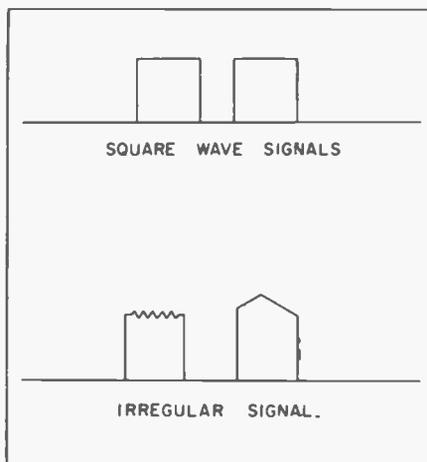

Fig. 1. Irregular signals might impair the operation of an IC. Digital circuits are designed to operate on regular waveforms.
CO Measurement. This is where the Automobile Exhaust Emissions Analyzer comes in. This easy to build instrument provides a visual indication of an exhaust component—carbon monoxide (CO). The level of CO (Fig. 1) in automobile exhaust is inversely proportional to the air-fuel ratio and combustion efficiency. The air-fuel ratio is varied when the idle mixture screws of a carburetor are adjusted. (Some carburetors have just one idle mixture adjustment screw; others have two).